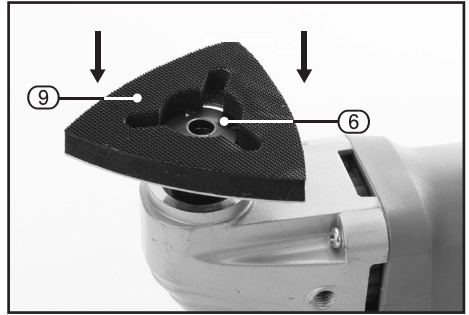

FIG.4
8.2 FITTING THE SANDING ACCESSORIES – FIGS.4 – 7